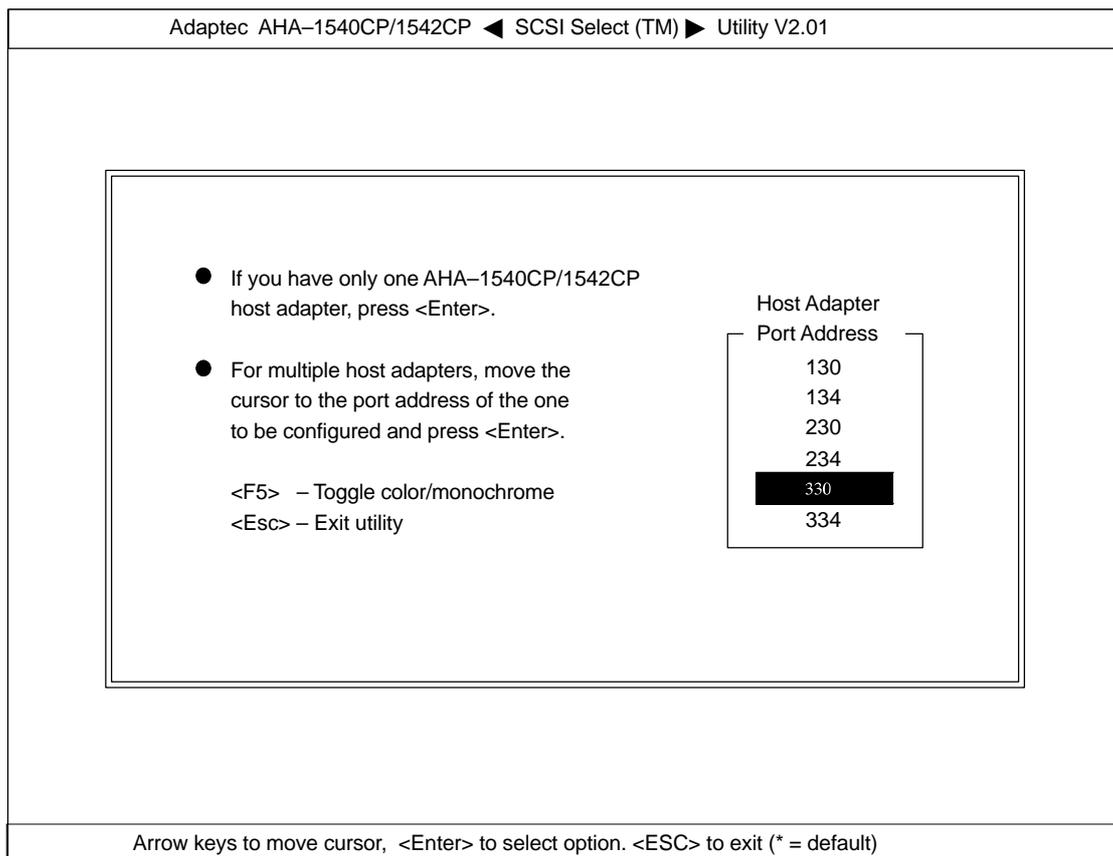

Fig. 4.15 SCSI Select menu 1
- Press <RETURN> to confirm the displayed host adapter port address 330 (default) in the SCSI *Select* menu 1 (see Fig. 4.15).